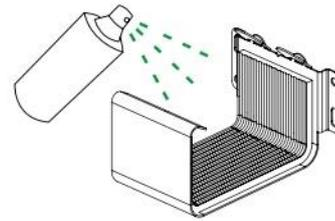

Figure 18
- 4.4. Before mounting the gutters in the expansion coupler, spray the gasket with a lubricant (Fig. 18).